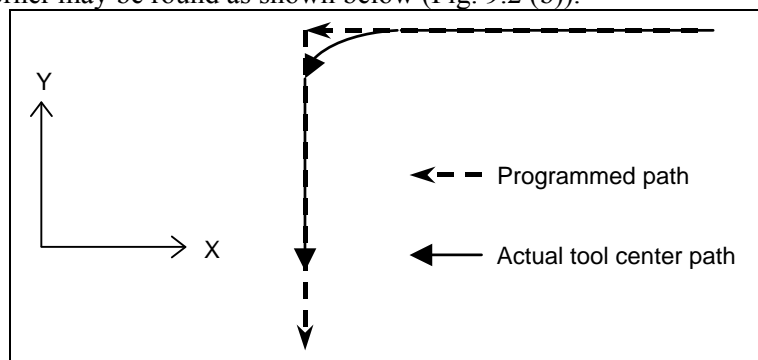

Fig. 9.2 (b)
- 5) If a value other than 0 is specified in parameter No. 1474, the number of accumulated pulses in the automatic acceleration/deceleration circuit of each axis is assumed to be 0 and machining proceeds to the next block when the feedrate being decelerated on each axis with the automatic acceleration/deceleration circuit has decreased to or below the feedrate set in parameter No. 1474. So, the path at a corner may be round as shown below (Fig. 9.2 (b)).